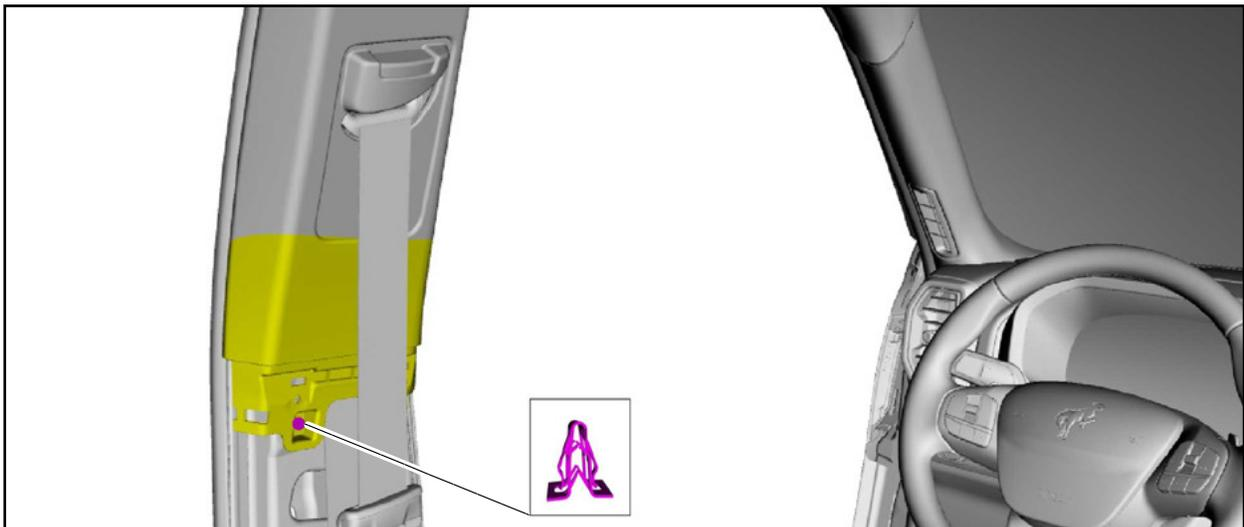

FIGURE 6
6. Release the upper B-pillar trim panel lower clip. See Figure 6.